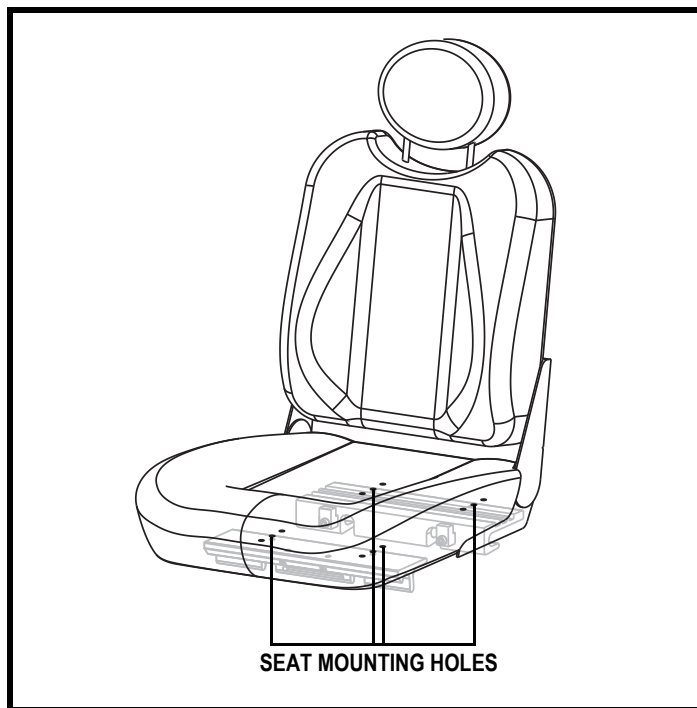

Figure 13. Seat Position Adjustment
6. Reposition the extrusions on a different set of mounting holes. You must move both extrusions the same number of holes either forward or backward. **See figure 13.**